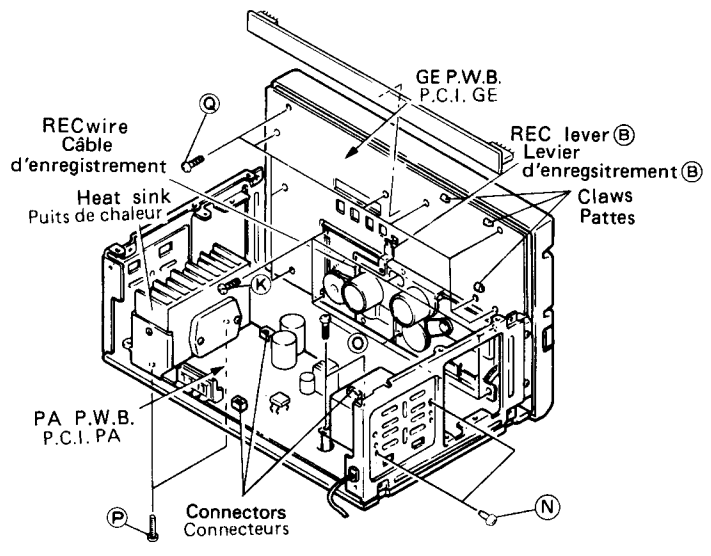

Fig. 5
- 4. Removing the PA P.W.B. (Fig. 5)**
- 5. Removing the GE P.W.B. (Fig. 5)**
- 6. Removing the Cassette Chassis (Fig. 5)**
4. Retrait de la P.C.I. PA (Fig. 5)
5. Retrait de la P.C.I. GE (Fig. 5)
6. Retrait du coffret (fig. 5)